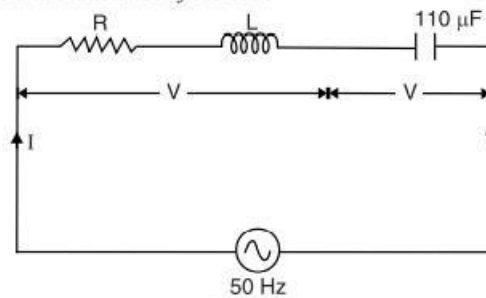

Fig. 12.36
**Solution.** Fig. 12.36 shows the conditions of the problem.